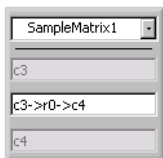

Figure 7. Device Window
- Click the add switches button. A device window appears, as shown in Figure 7.